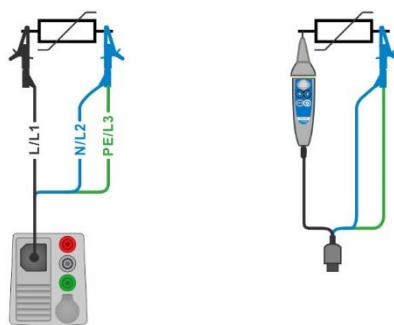
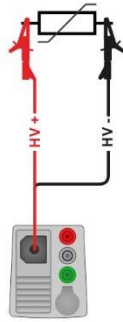

Figure 7.19: Connection of 3-wire test lead and Tip commander (Range: 1000 V)
Figure 7.20: Connection of 2.5 kV test lead (Range: 2500 V)
- ▶ Connect test leads to object under test (see *Figure 7.19* and *Figure 7.20*).